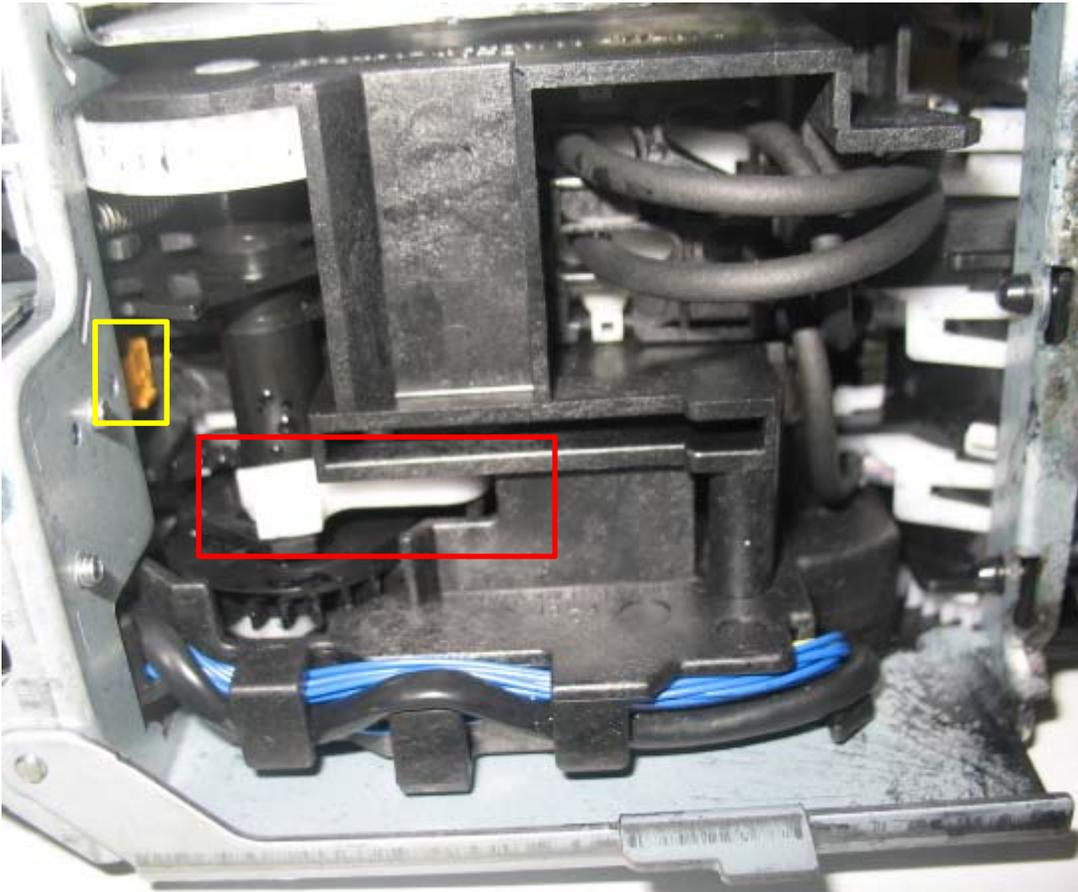

Figure 2
When the wiper moves to its rearward position, it also has a lower extension “lever” that can be seen under the printer. See the red box in Figure 2 below:
(running under it), and a photo sensor on a small stand-alone pc board (see yellow box in Figure 2).
- 7) If you have the strength (or a helper), you can tilt the print engine about 45° up on the plastic bowl in the sink and slowly spray off any significant ink runoff that may be still clinging to parts under the purge or carriage units unit. Again, with the exception of that photo sensor (see yellow box in Figure 2), keep the water off the electronics
- 8) With all the top and bottom flushing done, use a pressurized air duster can and get the purge unit and carriage drain areas dried off. Use common sense and do not blow the water upwards though the printer engine or towards any electronics. I gave some extra attention to blowing off that that photo sensor and its wire connector (see yellow box in figure 2). After the air can, and just for good measure, I also used an air compressor on it and let it sit for 24 hours to completely dry out. The compressor might have been overkill, but I had it and used it.